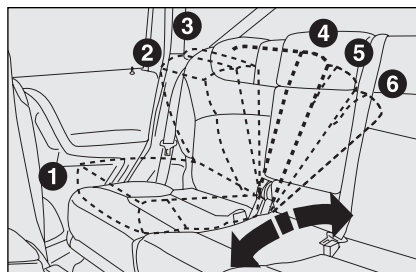

fig. 16
- move the rear sliding seat fully backwards with the seat back at 4th position, as shown in **fig. 16**.
- move the rear sliding seat fully backwards with the seat back at 4th position, as shown in **fig. 16**;